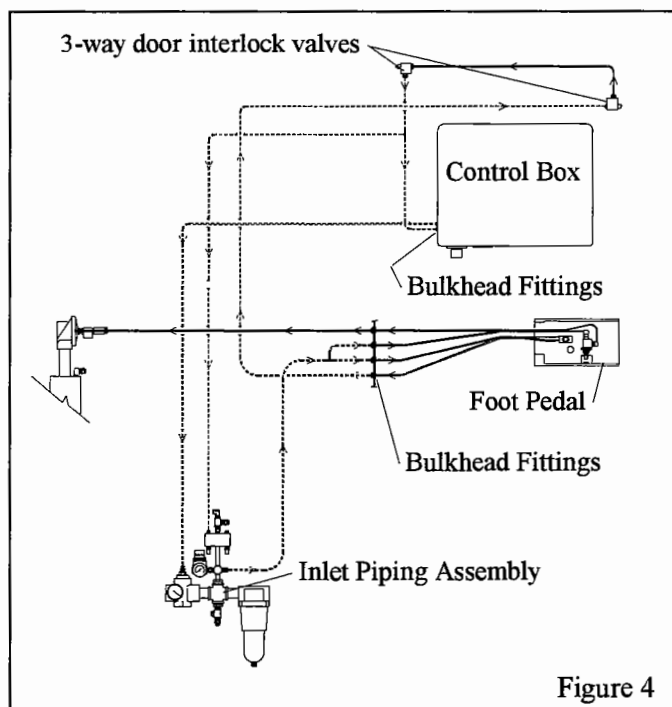

Figure 4
3.7 Remove all tubing shown as dashed lines in Figure 4.